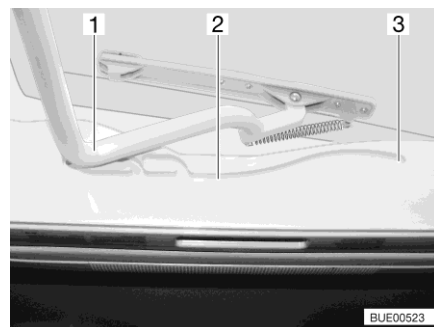

Fig. 28 Guide (Heki skylight)
- Pull the bar (Fig. 28,1) in the guides (Fig. 28,2) to the rearmost position (Fig. 28,3).
- Use both hands to push the bar (Fig. 28,1) slightly upwards.
- Pull the bar in the guides (Fig. 28,2) to the desired position.